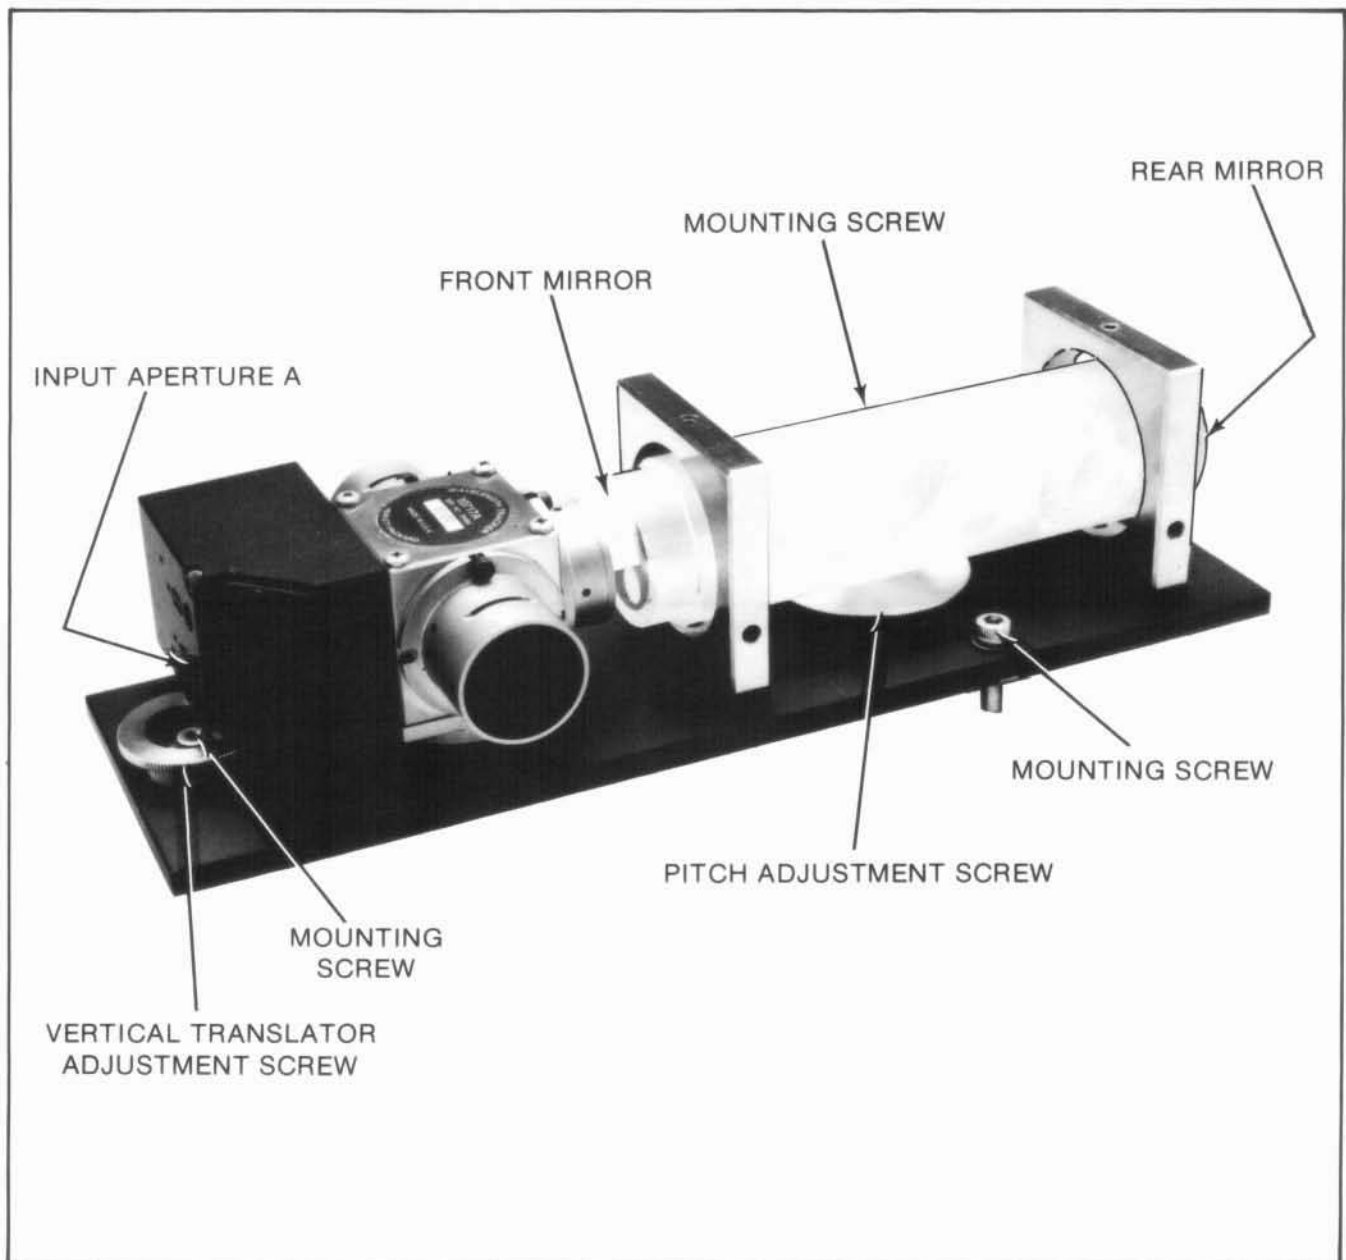

Figure 6-44. HP 10717A Wavelength Tracker Adjustment Hardware
11. Rotate pitch adjustment screw (see Figure 6-44) until the laser beam autoreflects back to the laser head so that the beam is symmetric about the output beam in the vertical axis. Adjust baseplate back and forth in yaw until the autoreflected beam is concentric with the laser head aperture.
4. Tighten front mounting screw (Figure 6-44) until slight resistance is sensed.
5. Place a piece of translucent tape over the differential interferometer's "A" input aperture (see Figure 6-44). Flatten tape tight against input "A" aperture to obtain a high resolution outline of the input aperture and a well defined laser pattern is visible on the tape.
6. Rotate vertical translator adjustment screw (see Figure 6-44) until the input beam is symmetric about the input aperture in the vertical axis. At the same time, translate in the horizontal direction to center laser beam in horizontal plane.
7. Tighten down front mounting screw (see Figure 6-44) finger-tight when laser beam is concentric to input aperture.
After the Wavelength Tracker and receiver have been properly aligned in the measurement system, it is recommended that the vertical translator adjustment screw (see *Figure 6-44*) be locked in place. This will prevent possible cosine error in the Wavelength Tracker due to thread clearance between the adjustment screw and the baseplate. A suitable low strength, wicking adhesive (Loctite #425) is recommended. In vibration-free environments, this precaution may not be necessary.
12. Tighten all three mounting screws (see *Figure 6-44*) until just finger-tight. Tighten three screws alternately until snug. Now tighten screws applying a torque of 0.9 Newton-meter (8 inch-pounds). Maintain proper autoreflection as screws are tightened. If change occurs, correct by readjusting Wavelength Tracker in pitch and yaw until the laser beam is autoreflected back into the laser head. This insures proper angular alignment.
19. Block one of the two beams incident on the **front** etalon mirror (see *Figure 6-44*) with a piece of paper. Be sure to block only one beam at a time. Observe the voltmeter reading. If the reading is greater than +0.1 Vdc, turn the gain adjustment screw counterclockwise until the voltage reads +0.1 Vdc.
20. Block one of the two beams incident on the **rear** etalon mirror (see *Figure 6-44*) with a piece of paper. Again, be sure to block only one beam at a time. If the measured voltage is greater than +0.1 Vdc, turn the gain adjustment screw counterclockwise until the reads +0.1 Vdc.